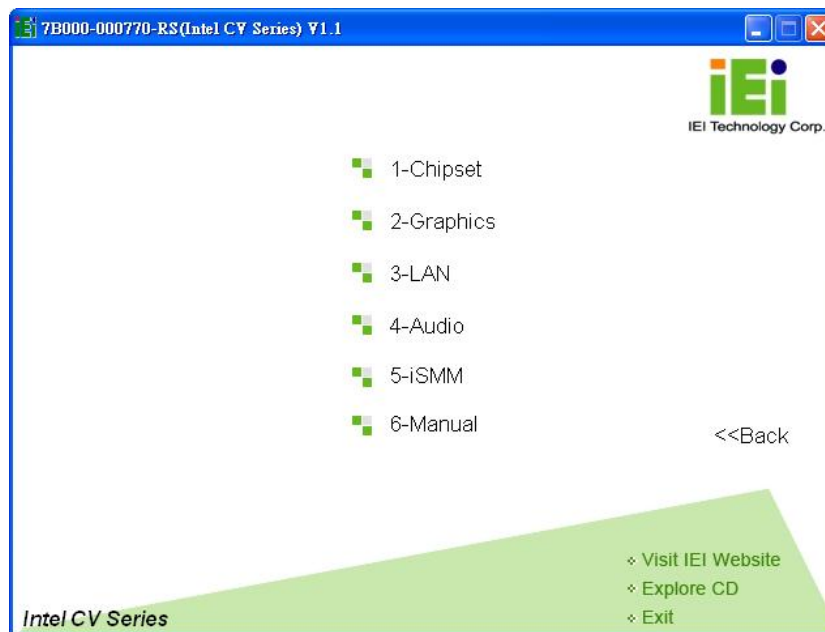

Figure 4-19: Available Drivers
Step 4: A new screen with a list of available drivers appears (Figure 4-19).